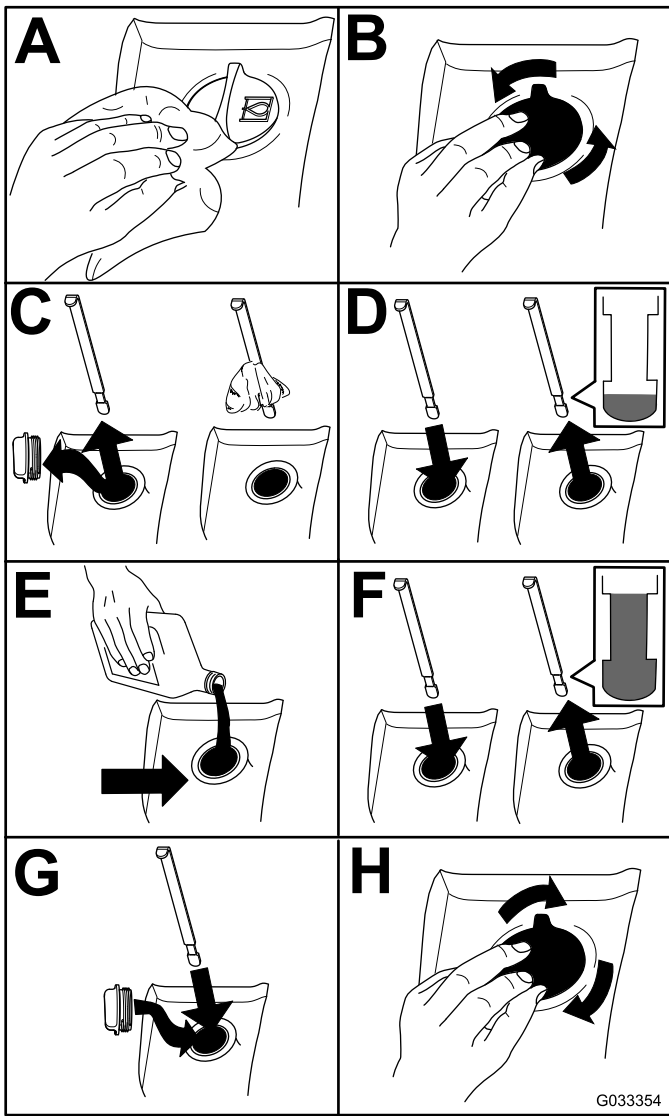

Figure 72
2. Check the hydraulic-fluid level (Figure 72).